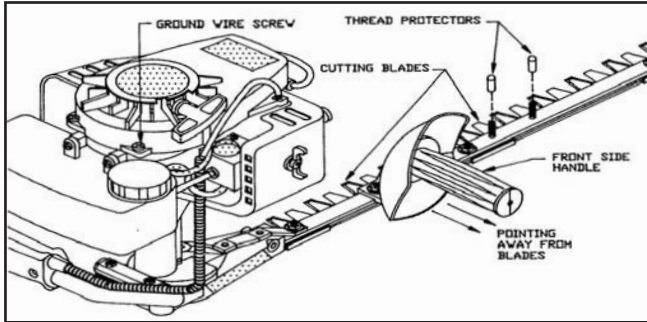

Figure 1
2. Place the front side handle over the two 1/4-28 studs protruding from the frame bar in front of the gear housing. The handle grip **must** be pointing away from the cutting blades as illustrated (Figure 1). On Model 2230S use the set of studs which places the handle in the most comfortable position for you. Place the thread protectors over the set of studs that you choose not to use at this time to protect the threads. Secure the handle in place using two 1/4-28 flange locking nuts provided. The nuts should be tightened enough to keep the handle from moving but not so tight as to crush the plastic.